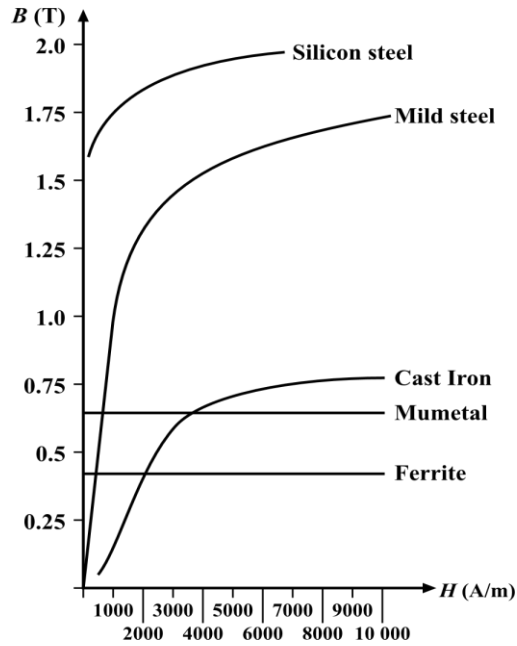

Figure 1. Magnetization characteristic of soft magnetic materials
- (i) Using the information in Figure 1, calculate the current in the coil required to produce a flux density of 1.1 T.